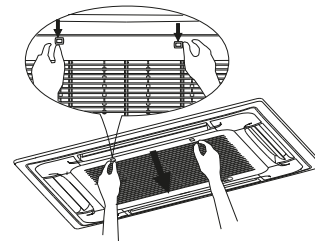

FIG. 6-1
Push the grill switches towards the middle simultaneously as indicated in Fig. 6-1. Then pull down the air-in grill.
**2 Take out the air-in grill (together with the air filter shown in Fig. 6-1).**